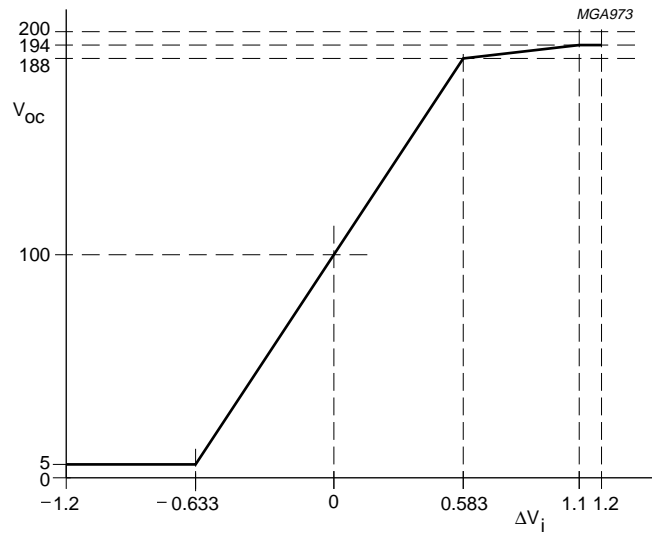

Fig.6 Typical low-frequency ( $f < 1$  MHz) response of  $\Delta V_{i1, 2,3}$  to  $V_{oc1, 2,3}$ .
- See also Fig.6 for the typical low-frequency response of  $V_i$  to  $V_{oc}$ .